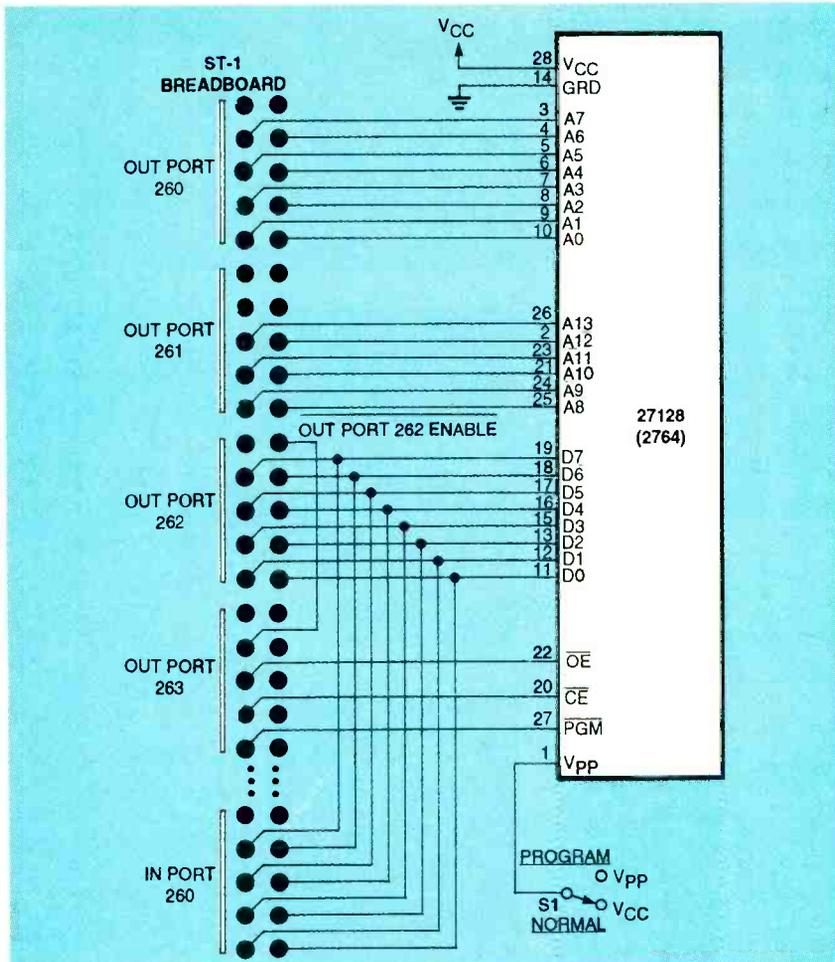

FIG. 1—27128 EPROM HOOKUP to the ST-1 breadboard appears here. The same hookup works for a 2764.
First set up the hardware. Figure 1 shows the hookup between the ST-1 breadboard and the 27128 28-pin EPROM. The port numbers shown in the figure and in the program listings represent the decimal values of the default base I/O port (260) provided by the breadboard. If the board is not set to the default address, substitute the values in all diagrams and software. (Part 1 of this series detailed base I/O port selection.)
scribed momentarily. For now, note that port 263 drives the EPROM's output enable ( $\overline{OE}$ , pin 22), chip enable ( $\overline{CE}$ , pin 20), and program pulse ( $\overline{PGM}$ , pin 27), as shown in Fig. 1. Port 263 also controls port 262's enable line. The odd-numbered bits of 263 are configured as follows: D1 ( $\overline{PGM}$ ), D3 ( $\overline{CE}$ ), D5 ( $\overline{OE}$ ), and D7 ( $\overline{PORT\ 262\ ENABLE}$ ). All four signals are active-low. Bits D0, D2, D4, and D6 are not used, so they can be set to any arbitrary value. You might want to make them the complements of D1, D3, D5, and D7. Then, if extra hardware is ever needed, both the active signals and their complements will be available.